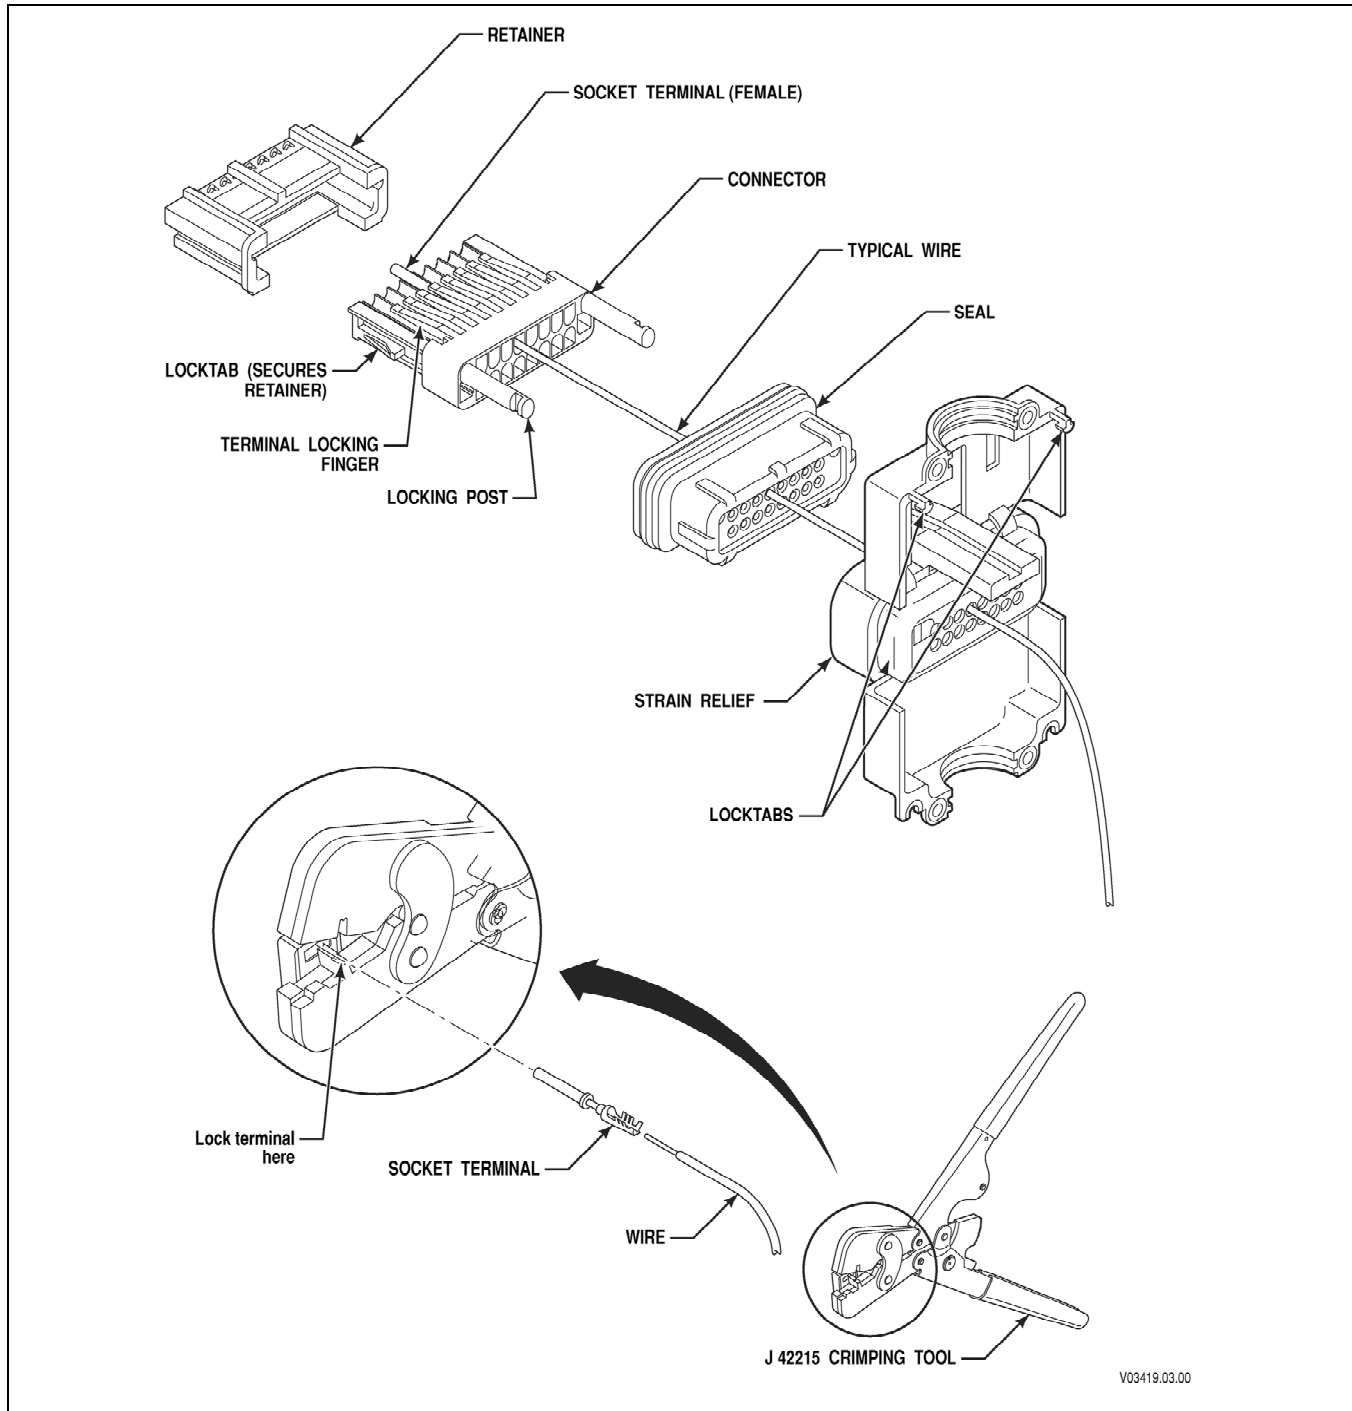
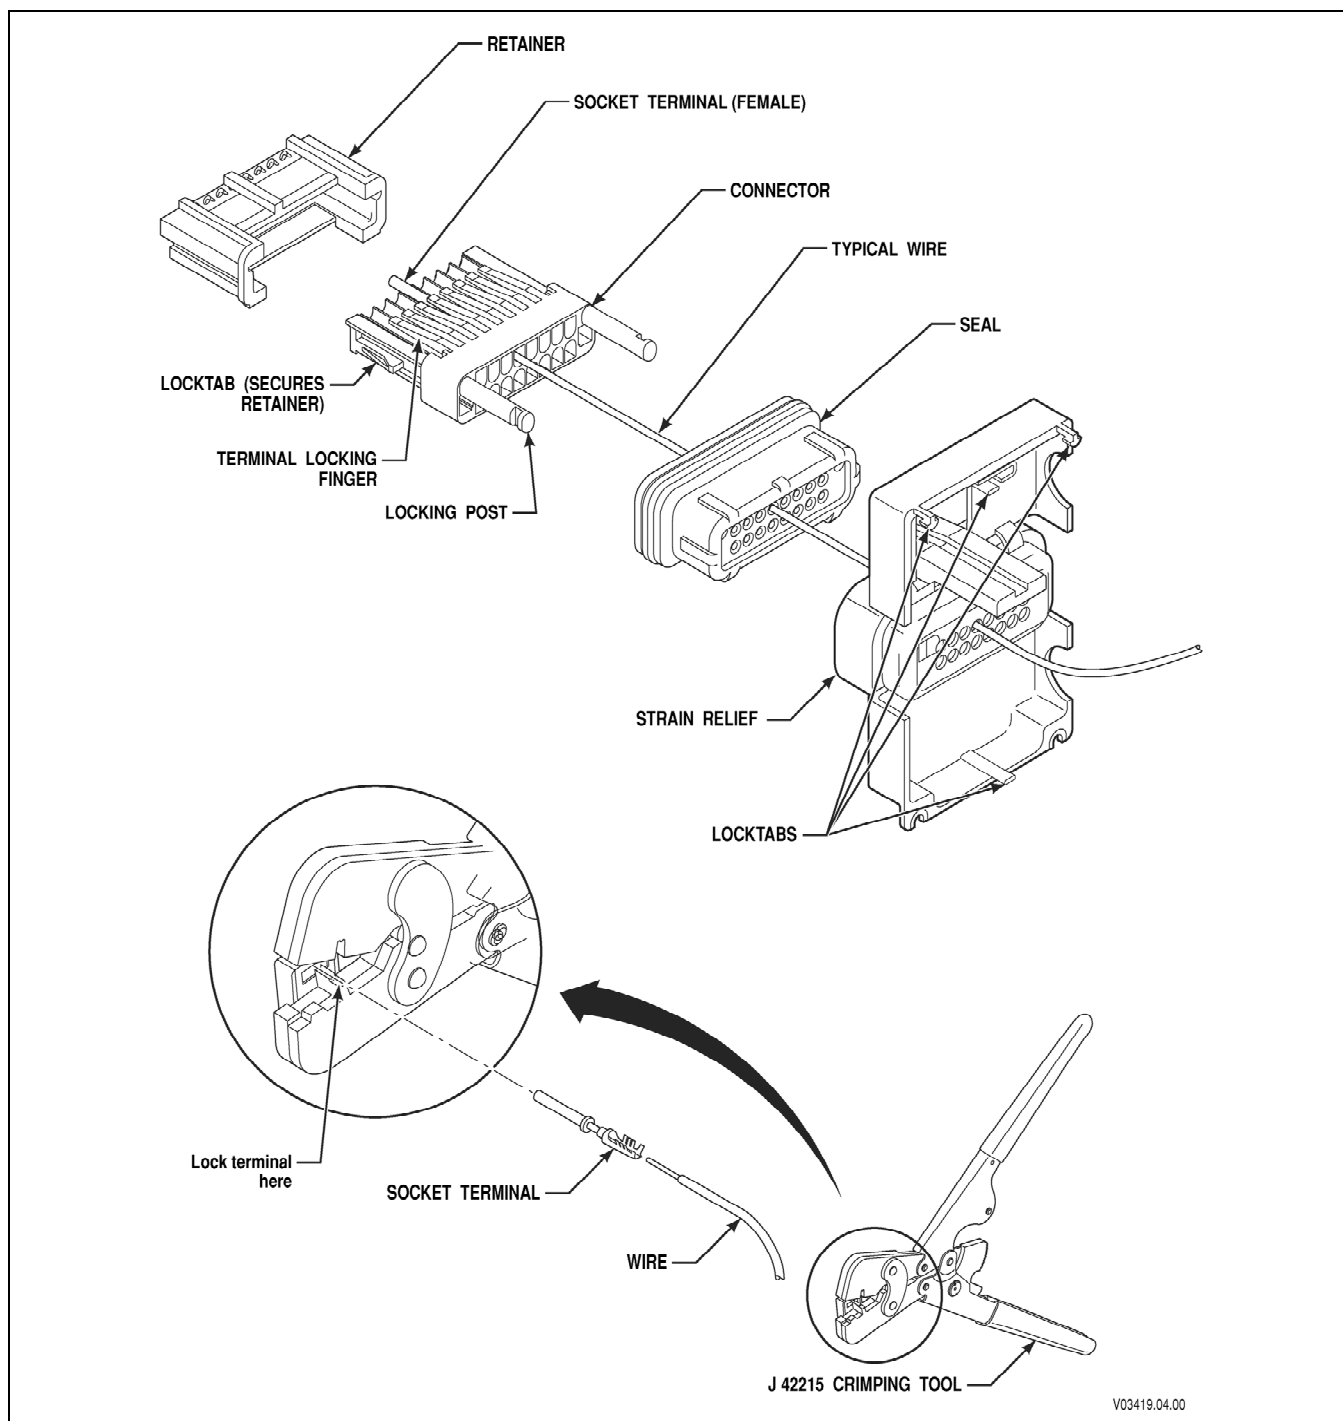
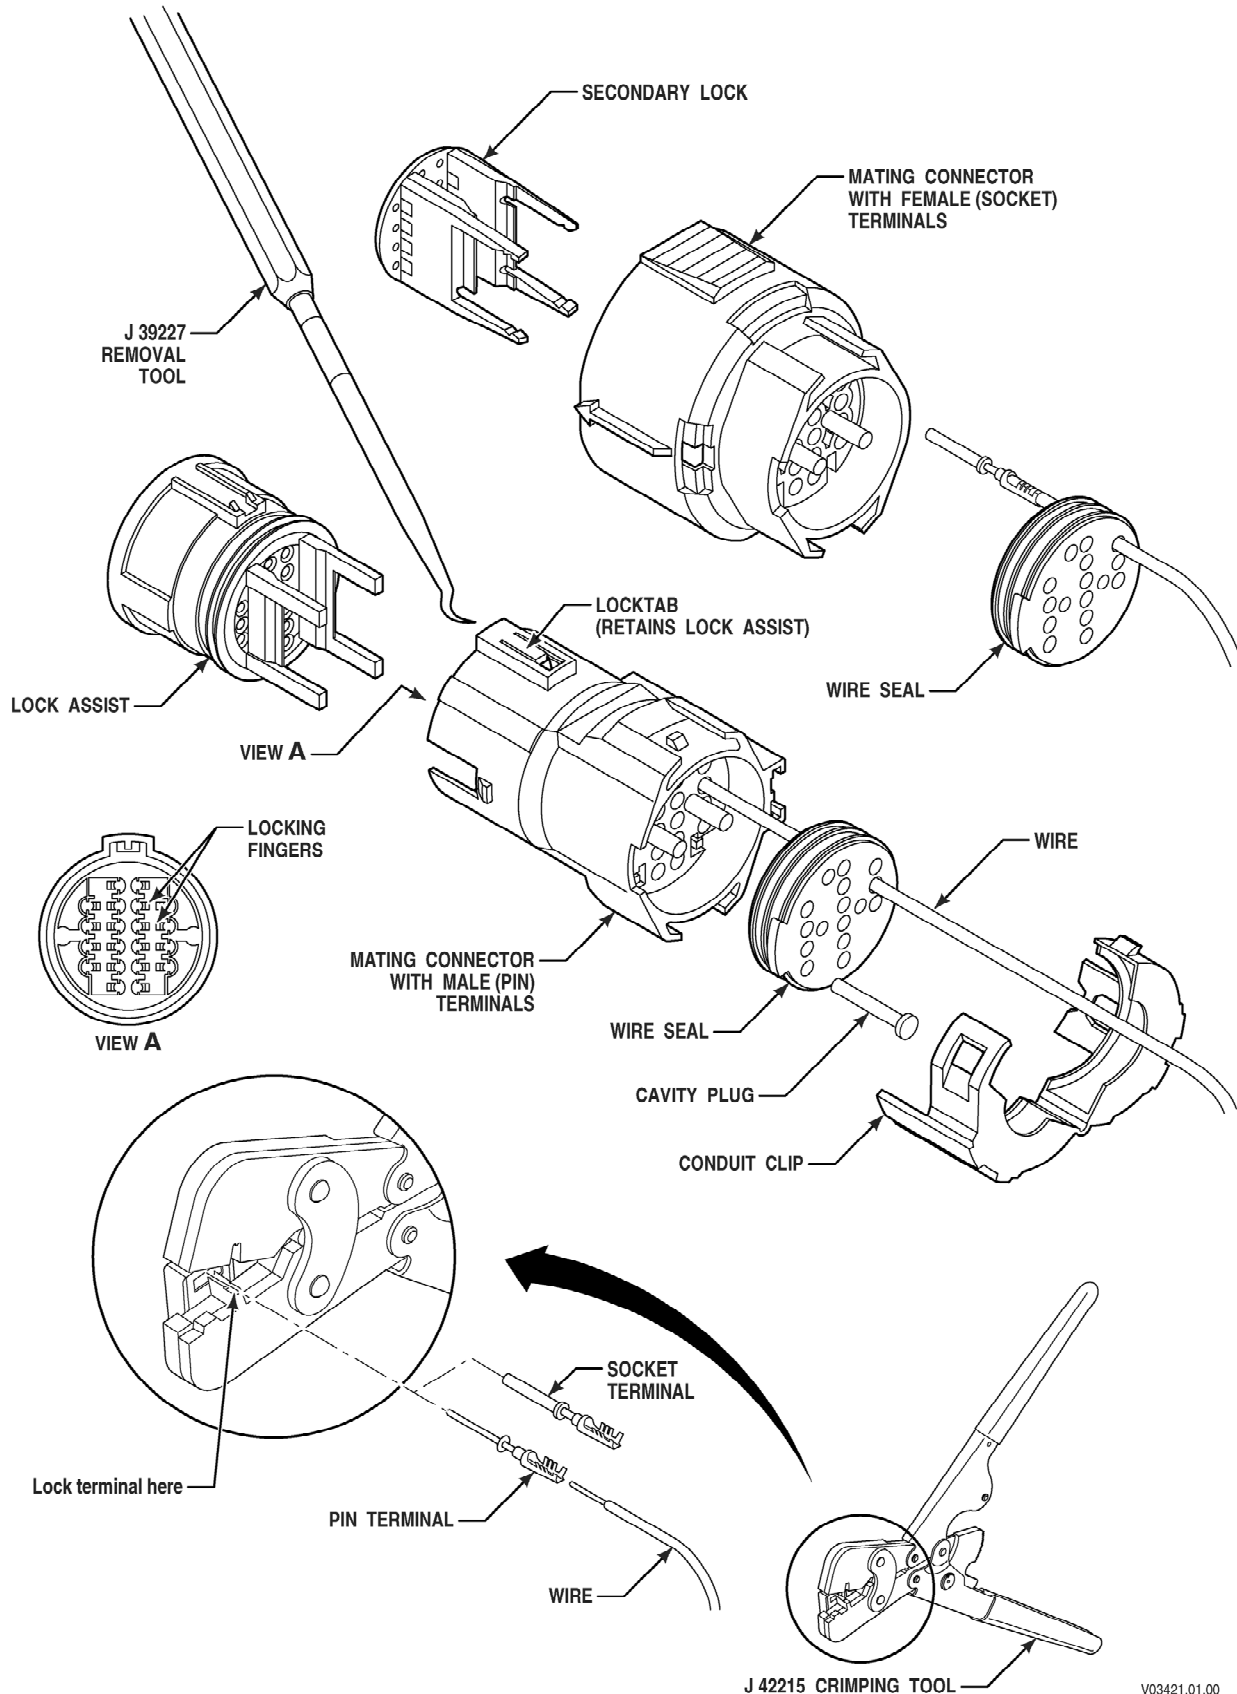

Figure G-7. Delphi-Packard Micro Pack 16-Way 180 Degree Connector
Figure G-8. Delphi-Packard Micro Pack 16-Way 90 Degree Connector
Figure G-9. Delphi-Packard Micro Pack Connector (Strip Shift Selector)
1. CAN Shift Selector Harness Connectors (refer to Figure G-7, Figure G-8, and Figure G-9).
2. Strip Shift Selector (Device) Connectors (refer to Figure G-9).
3. Strip Shift Selector Harness Connectors (refer to Figure G-9).
4. Complete terminal installation for Strip Shift Selector Connectors as follows: (refer to Figure G-9)
5. Complete terminal installation of the CAN Shift Selector Connectors as follows: (refer to Figure G-7, and Figure G-8).